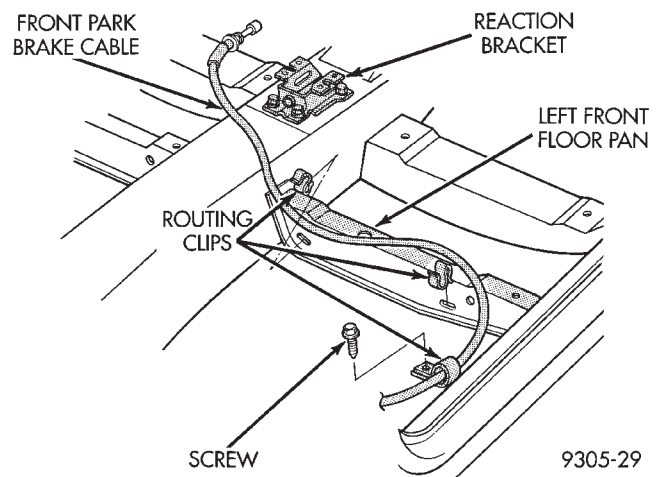

Fig. 100 Front Park Brake Cable Routing And Clipping
(8) Remove front park brake cable from reaction bracket (Fig. 100). Remove screw, attaching park brake cable routing clip to left front floor pan (Fig.
100). Remove front park brake cable from the 2 routing clips attached to the floor pan crossmember (Fig. 100).
(7) Install the park brake cable routing clip to floor pan attaching screw (Fig. 100). Torque the routing clip to floor pan attaching screw to 4 N·m (35 in. lbs.). Install front park brake cable into routing clips on floor pan crossmember (Fig. 100).